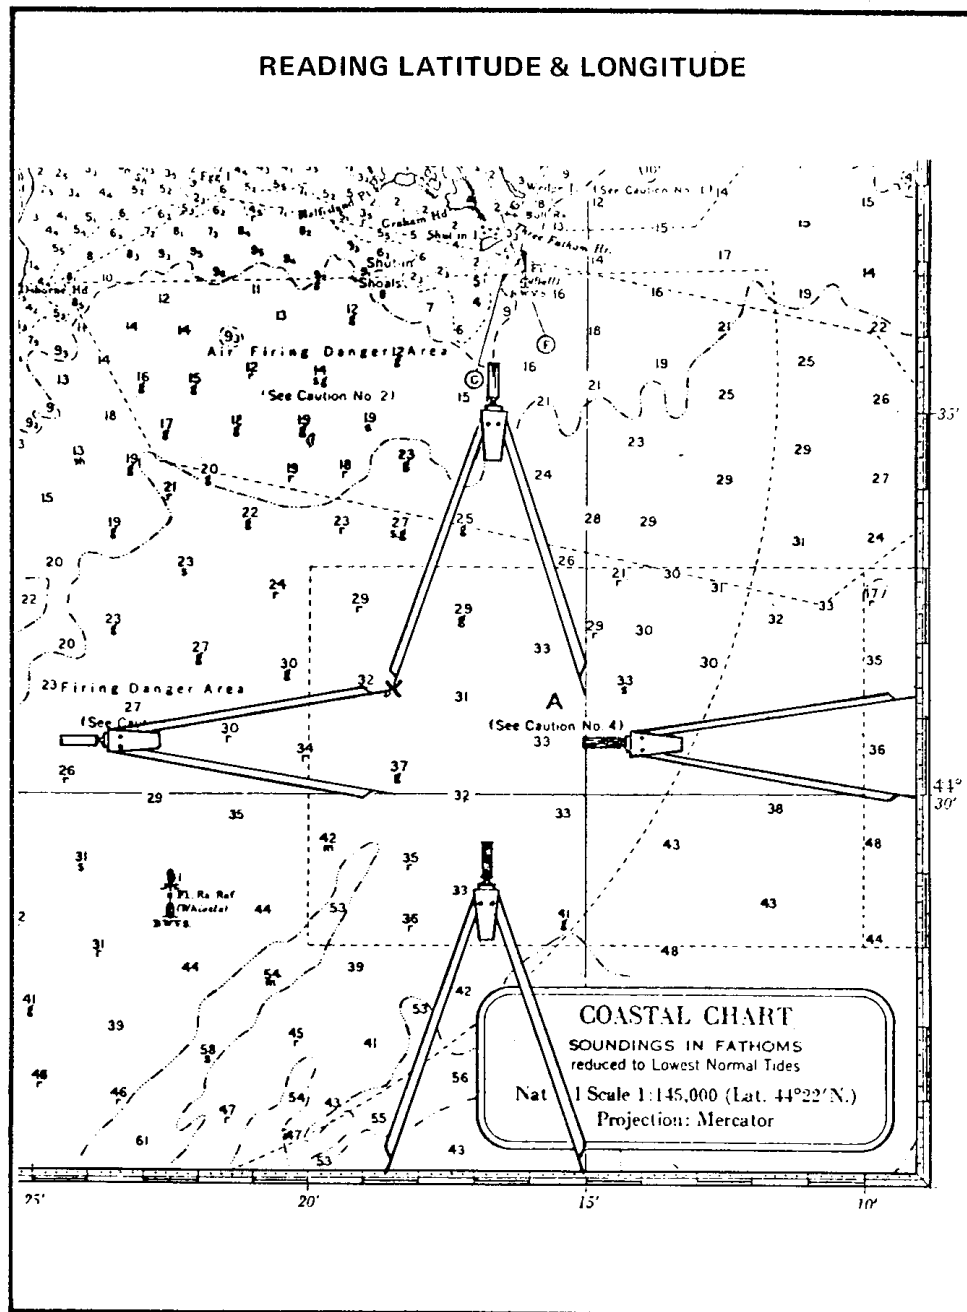

Figure 7-7 Using Latitude and Longitude
23. **Describing a Position** — (See Figure 7-7.) A vessel in trouble, having a radio, must be able to say where she is if help is to reach her. Similarly, a rendezvous cannot be arranged unless a position is described. The chart permits us to do these things. **In proximity to land** we may be able to use **place names**, as "two miles south of Danger Reef," "three **cables** (600 yards) east of Portlock Point," "from Turn Point, 390 degrees magnetic, one mile," "mid-channel in Grief Passage," or similar brief phrases. **In open water**, with no landmarks available, positions must be described by **latitude and longitude**. Using dividers or parallel rule we **transfer our position first horizontally to the nearest vertical edge of the chart** where we read, for example, 44 degrees 31.3 minutes ($44^{\circ} 31.3'$), obviously north **latitude**. Similarly we **move our position** vertically to the **top or bottom edge** of the chart and read, say, $63^{\circ} 18.6'$, obviously west **longitude**. Our position is then: $44^{\circ} 31.3'$ North; $63^{\circ} 18.6'$ West. Latitude is stated first and both latitude and longitude should be qualified as to direction from the equator, north or south; from Greenwich, east or west. Local usage generally omits the qualification. Reversing the process must be able to pinpoint a spot on the chart having been given the latitude and longitude. A complex subject? No, not really, but the use of charts is a fascinating subject when put into practice. Nothing adds more to the job of boating than doing it properly, with chart and compass.